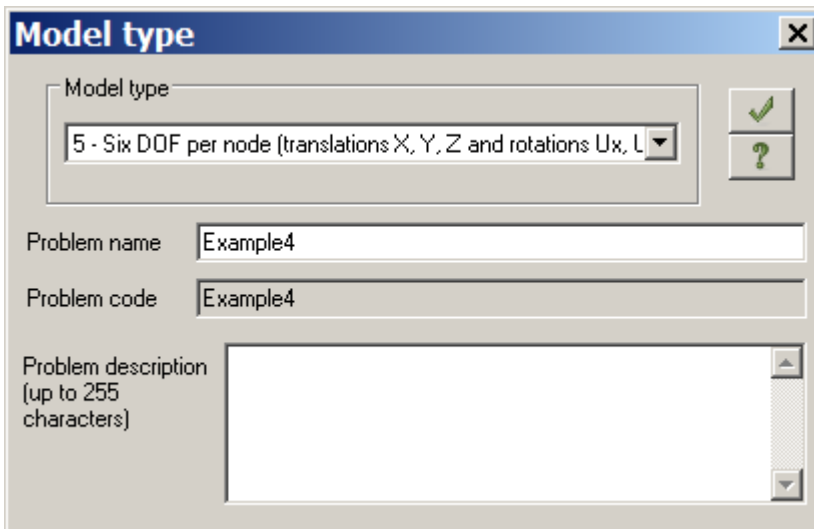

Figure 4.2 **Model type** dialog box
- ⇒ In the **Model type** dialog box (see Fig.4.2) specify the following data: